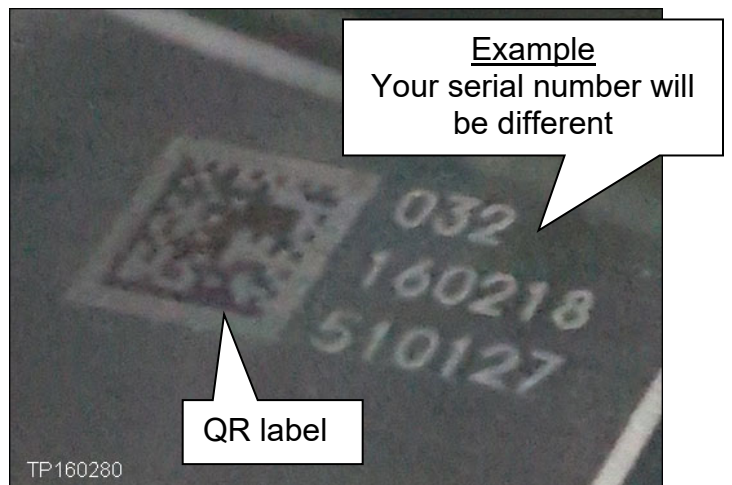

Figure 2A
- If there is no serial number (the area shown in Figure 2A is blank), **skip to step 9** for ABS control unit replacement.
- In the **example** in Figure 2A, the serial number is **032160218510127** (this is an example - your serial number will be different).